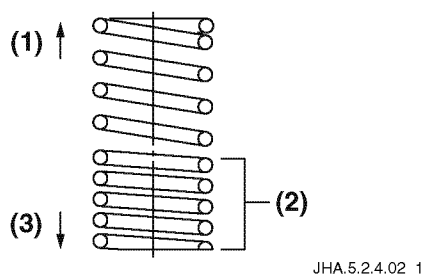

Figure 5-22
The pitch orientation of the valve springs is not the same. The side with the smaller pitch (yellow) (Figure 5-22, (2)) should be installed down (toward the cylinder head). The spring should be tested in the same orientation.